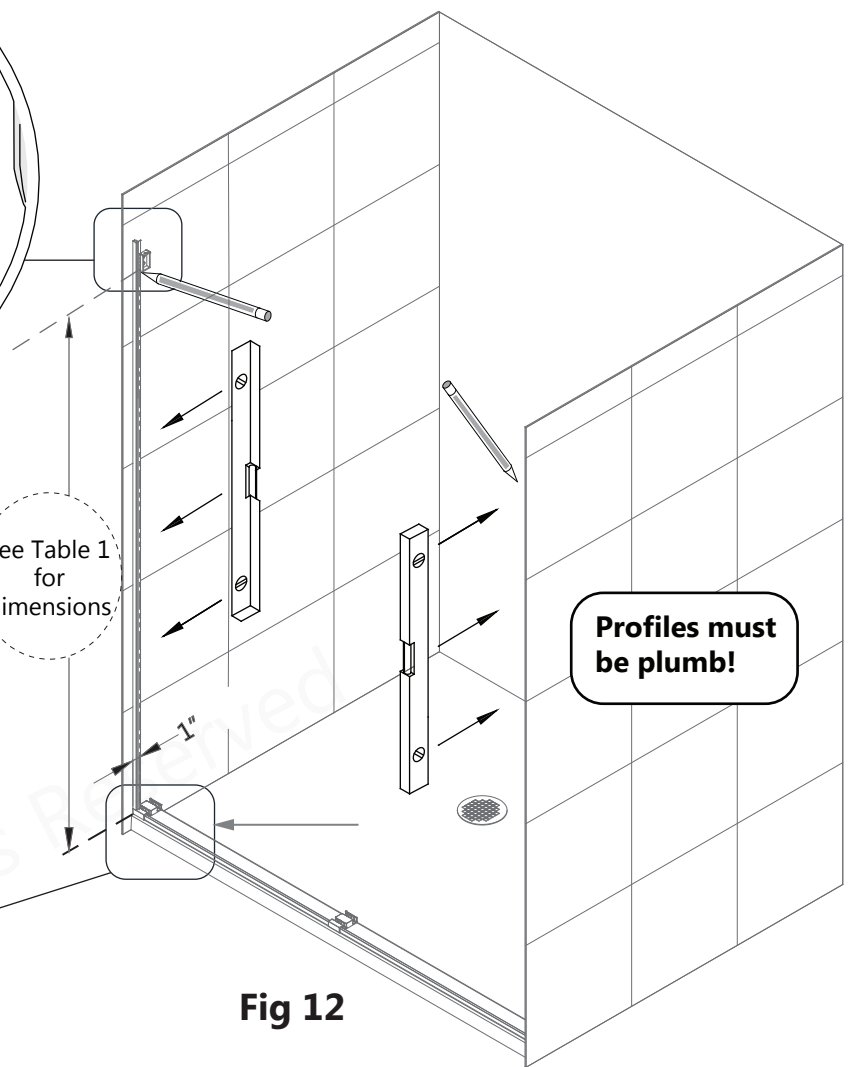

Fig 12
12. Hold the **Wall Bracket Assembly (#02)** in the designated position and mark the holes for drilling. Drill the holes using a **Ø5/16"** drill bit and insert the wall anchors. Attach the wall bracket assemblies using the **ST4.2 x 40 Countersunk Screws (#16)**. (Fig 12)**